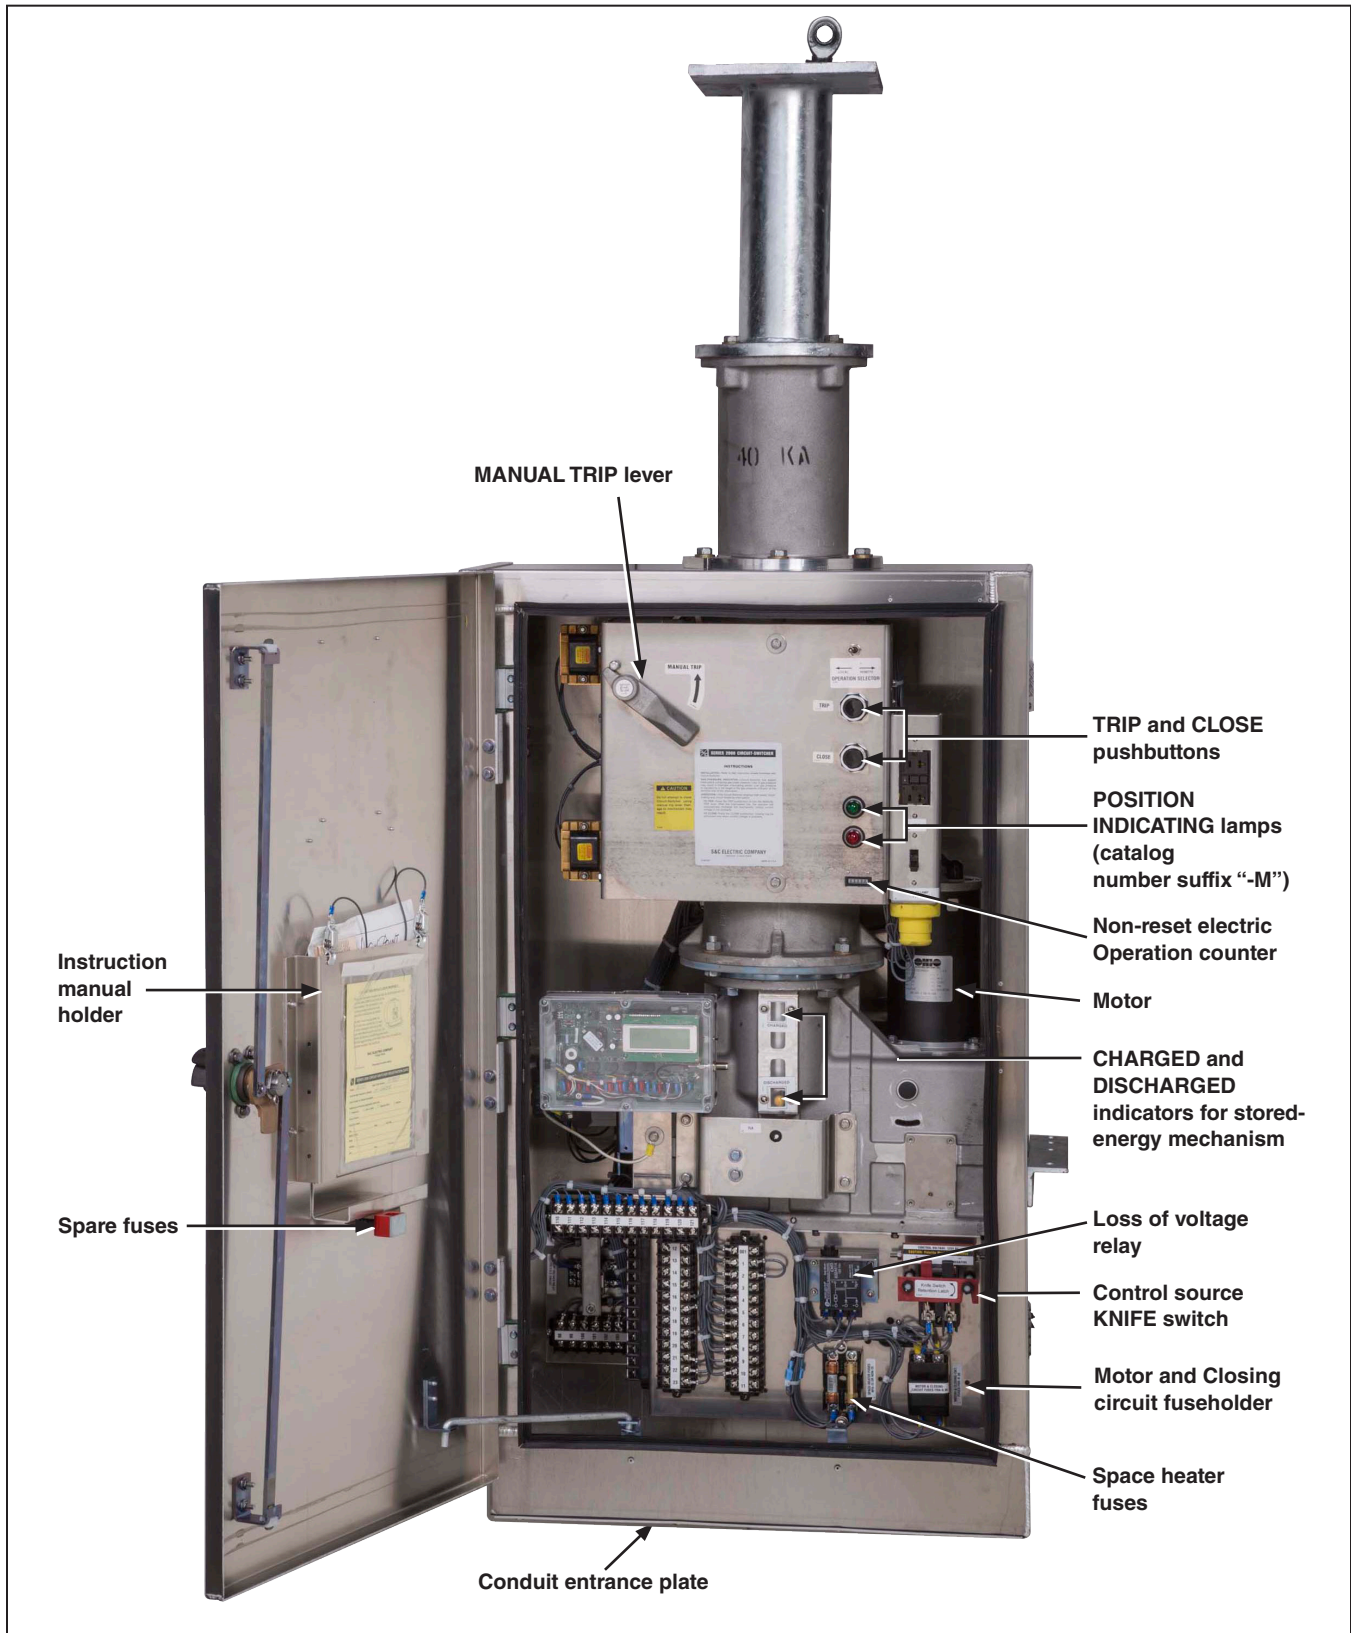
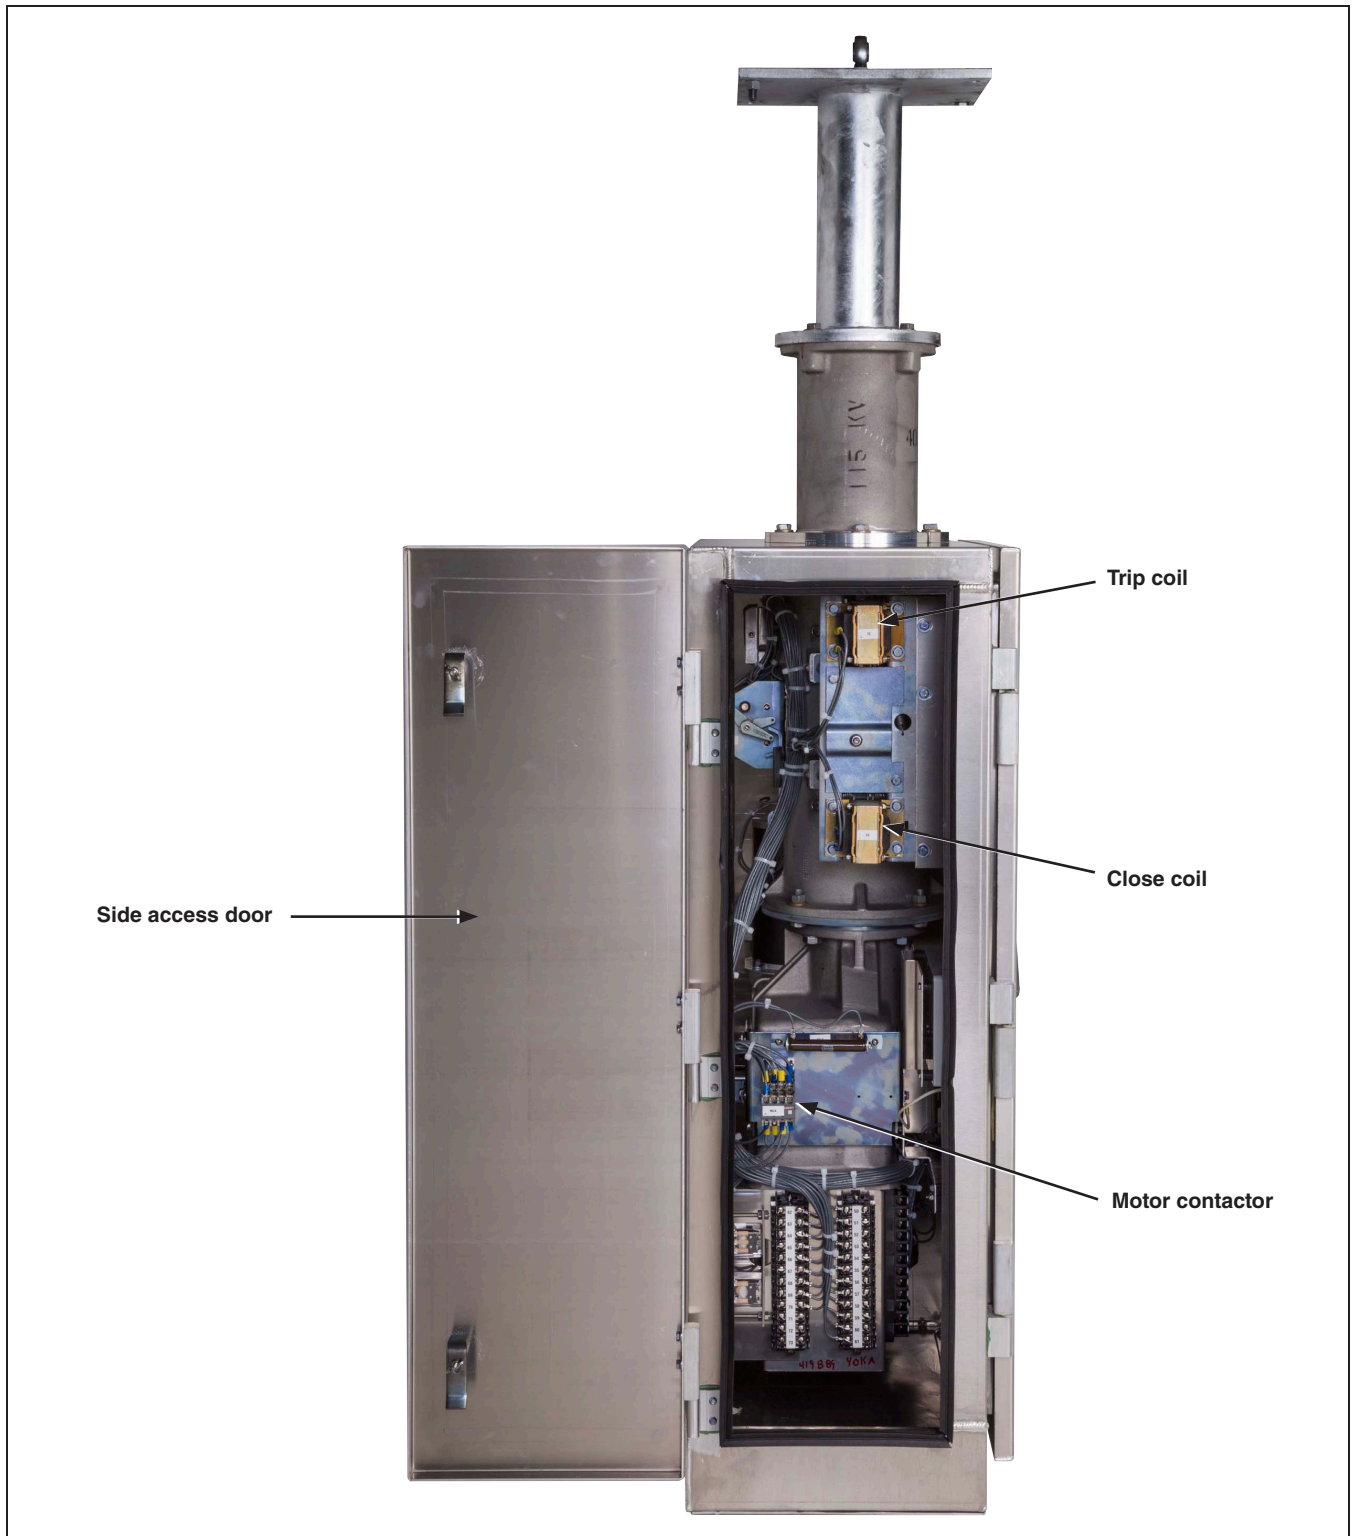
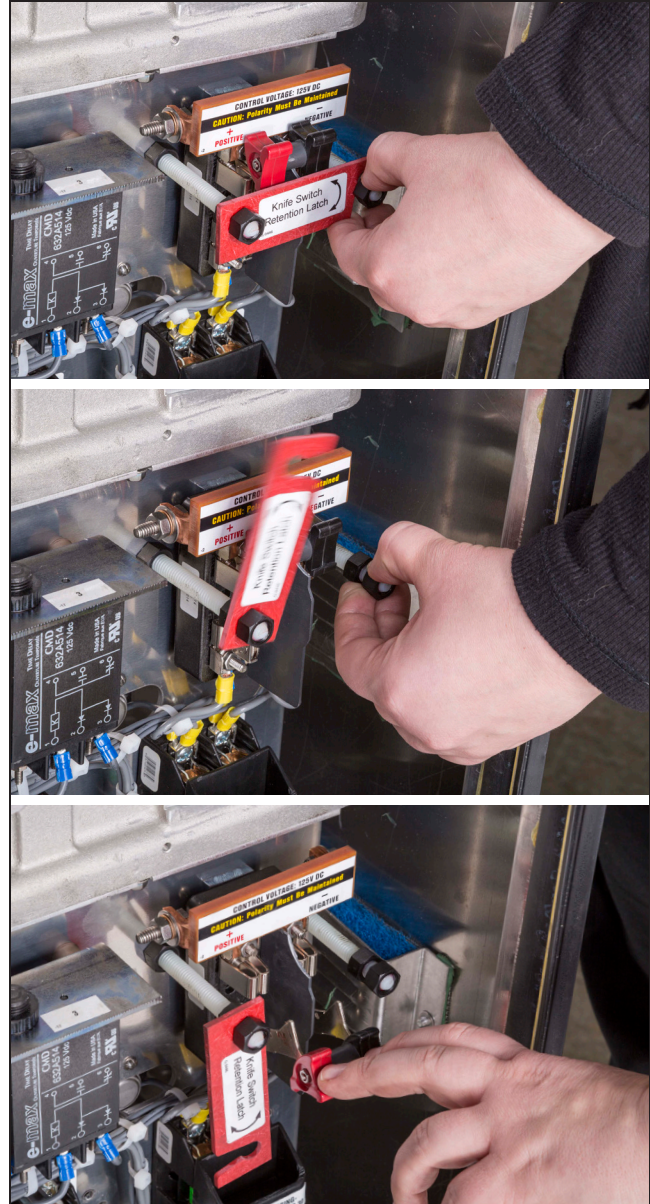

Figure 24. The inside of a Series 2000 switch operator.
Figure 25. Side-access panel of a Series 2000 switch operator.
Figure 26. The KNIFE switch retainer and KNIFE switch.
- STEP 1.** Perform the following set-up procedure on the operator. See Figure 24 on page 22, Figure 25 on page 23, and Figure 26 on page 24.
- (a) To avoid accidentally energizing the operator after the external connections have been completed, open the control power KNIFE switch, and then swing the KNIFE switch retainer arm out of the way by putting pressure on the red insulated retainer and the black nylon retainer nut. The KNIFE switch retainer arm will “pop up” and can then be swung out of the way. See Figure 26 on page 24.
- Correct polarity has been observed on dc control-voltage models (see Figure 24 on page 22)
- STEP 6.** Press the CLOSE pushbutton or send a “Close” signal to the switch operator. See Figure 24 on page 22. The closing latch will release, discharging the closing spring. This action closes the interrupters. The SWITCH POSITION indicator on the high-speed base will move to the **Closed** position. Further, if the POSITION INDICATING lamp option has been specified, the red lamp will light.
To open the circuit-switcher, press the TRIP pushbutton or send a remote trip signal to the switch operator. See Figure 24 on page 22.
**To close the circuit-switcher:** Press the CLOSE pushbutton or send a remote close signal to the switch operator. See Figure 24 on page 22.
**To trip the interrupters:** Push the manual TRIP lever counterclockwise as indicated by the TRIP lever label. See Figure 24 on page 22. The opening latch in the stored-energy mechanism will release, discharging the opening spring.